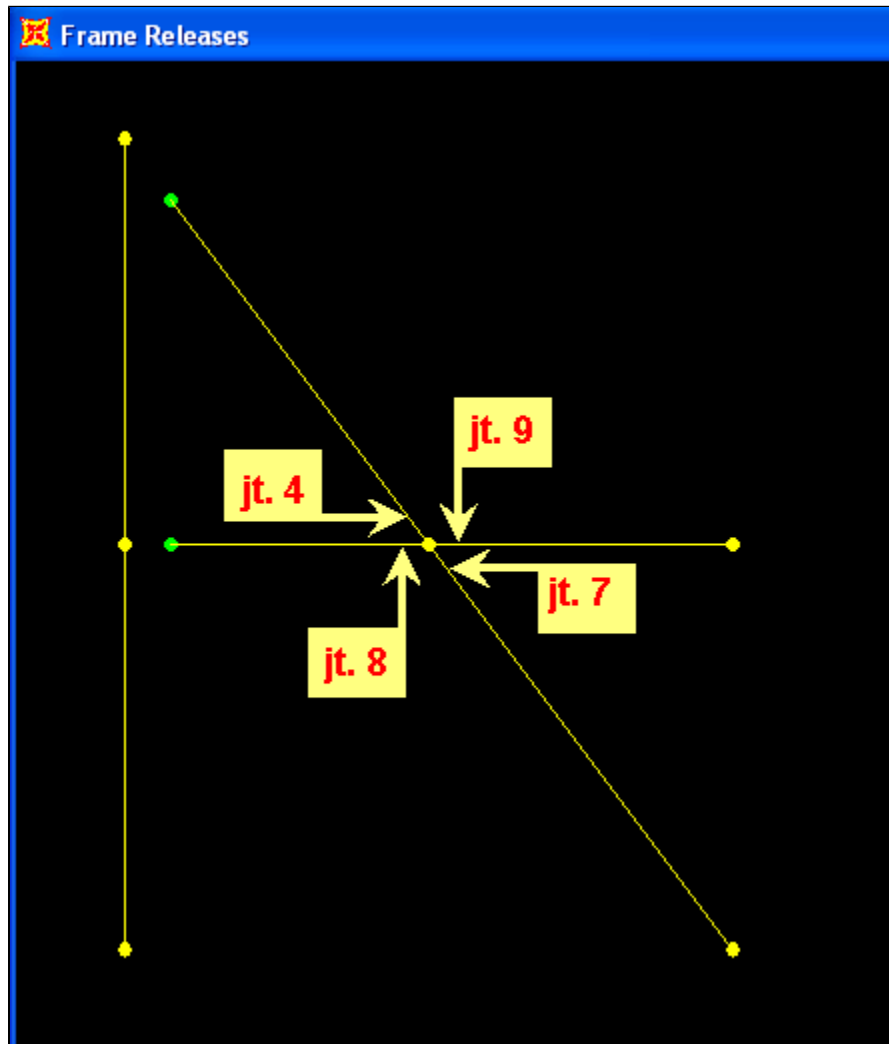

Figure 3 - Revised joints at the pin-connection
4. Select joint 4, the point of pin connection, then use the Edit > Edit Points > Disconnect command to create four separate joints at this location, one for each of the coincident members. The new joints will be numbered 4, 7, 8, and 9, as shown in Figure 3: